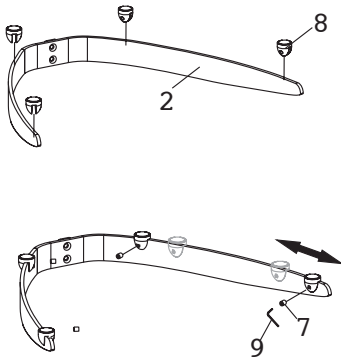

Fig. 1
Attach Plastic mat(8) to Selves(2) with Set bolts(7) using allen 2.5 x 2.5 mm Wrench(9). Do not over tighten the bolts, and then Slide the plate into position as required (Fig. 1). It can be retracted to fit all sizes of A/V equipment. Then securely tighten all bolts using 2.5 mm wrench(7).